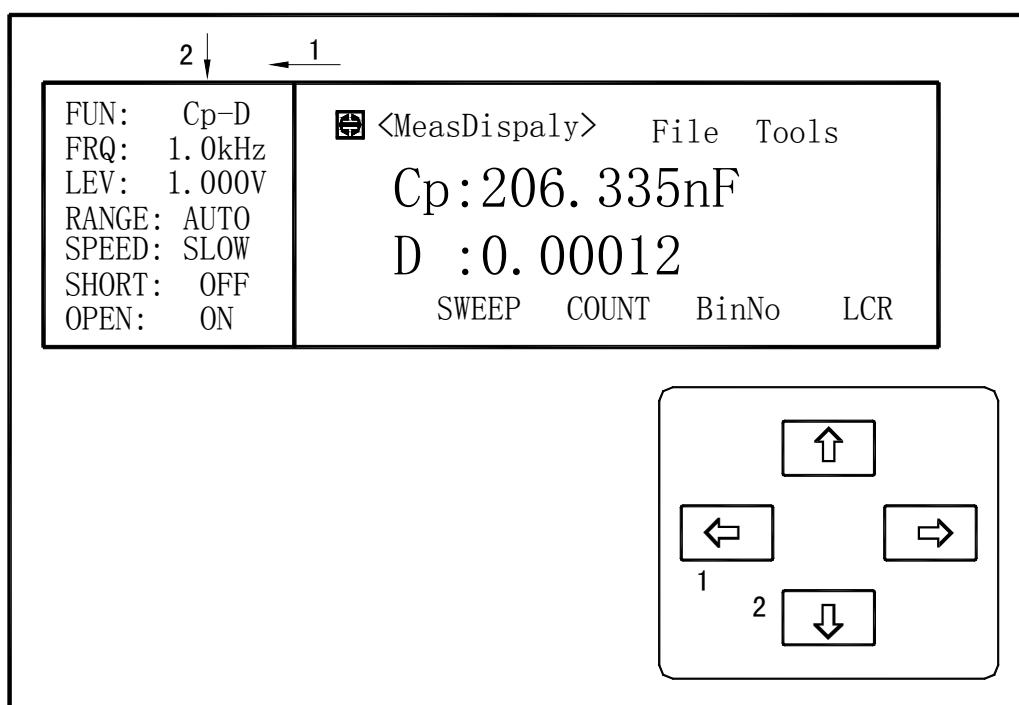

Figure 4-1. CURSOR Keys and Field Operation Example
- Move the CURSOR to the field to be used using the CURSOR keys. The cursor will be an inverse video marker, and the field is an area at which you can set the CURSOR. (Refer to Figure 4-1.)